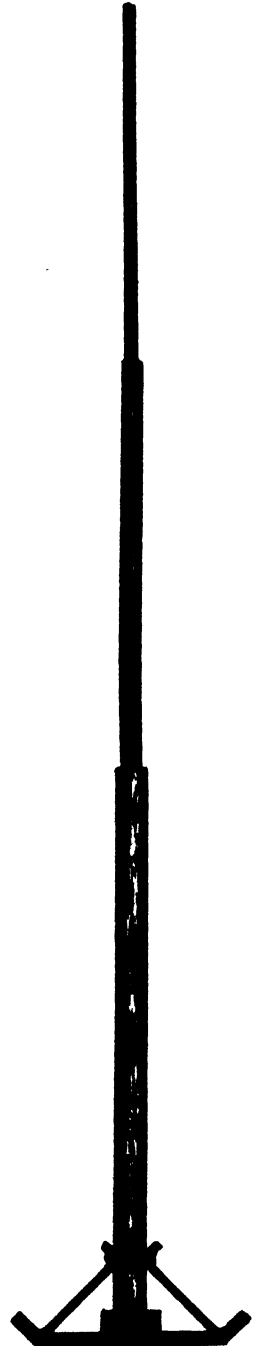

FIG. 84. FLAG POLE.
14. A small flag pole, Fig. 84, is 40 feet long. It balances when a block is placed under it 15 feet from the base. The pole weighs 600 pounds. How much force must be exerted to lift the small end off the ground. Make an accurate diagram and solve.